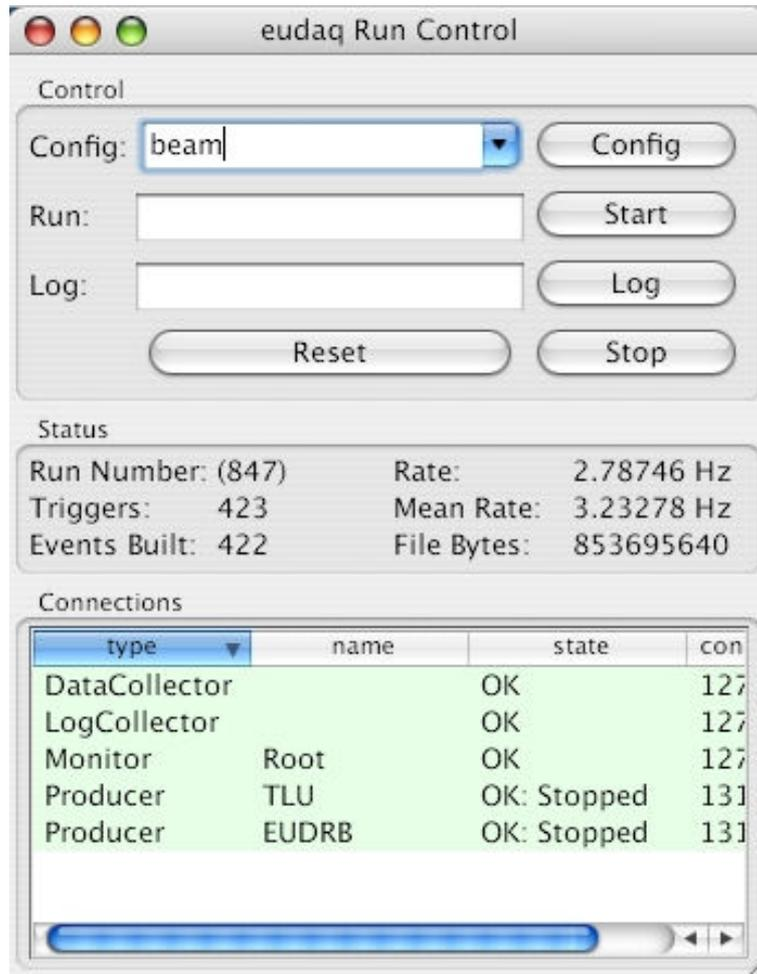

Figure 3: The run control window.
- Several windows open. The data taking is controlled in the window **eudaq Run Control** which is shown in figure 3.